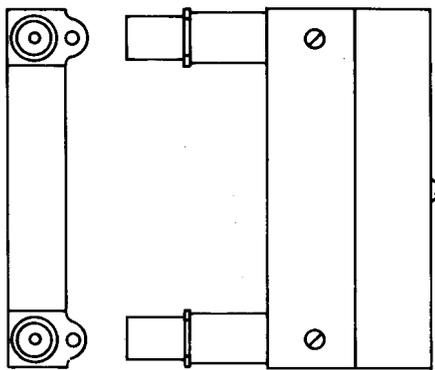

Fig. 5—555A Jack
2.05 555A: This coaxial twin-type jack (Fig. 5) has coaxially arranged inner and outer contacts. The outer contacts are connected together. A removable coverplate is furnished for use in covering an unused cable entrance hole. The jack construction